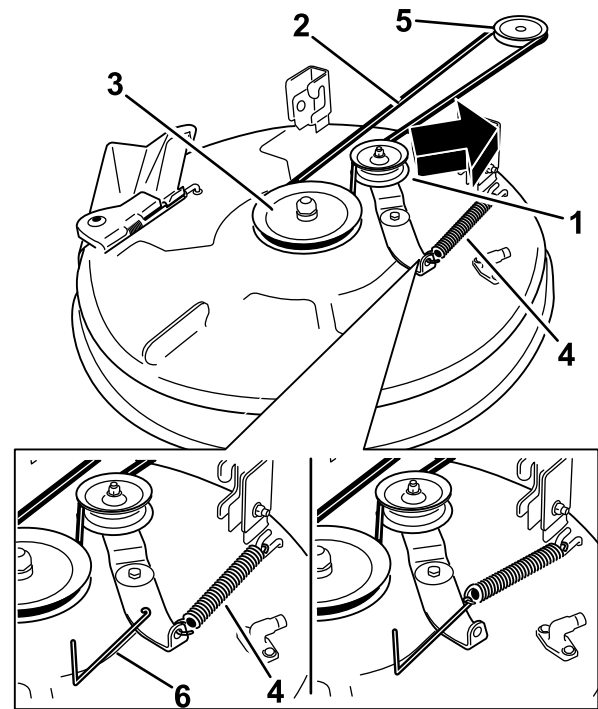
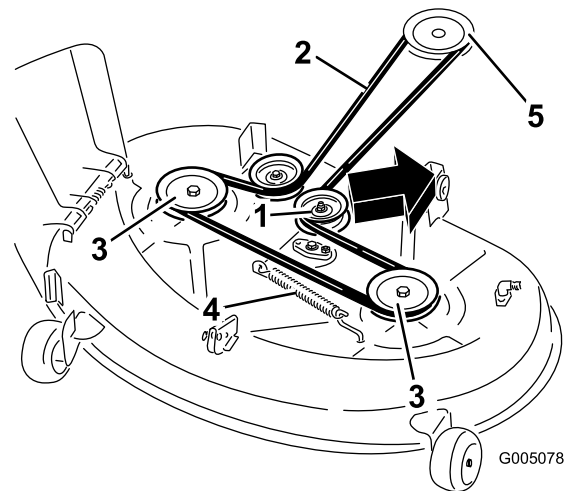

Figure 65
Figure 66
5. Using a spring-removal tool (Toro part no. 92-5771), remove the idler spring from the deck hook to remove tension on the idler pulley, and roll the belt off of the pulleys (Figure 65 and Figure 66).
6. Route the new belt around the engine pulley and mower pulleys (Figure 65 and Figure 66).
tension on the idler pulley and the mower belt (Figure 65 and Figure 66).